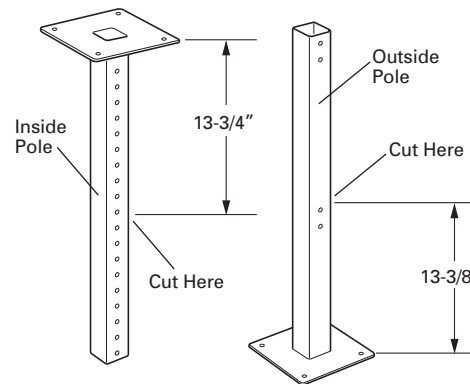

Figure 5
2. Cut the Outside Pole to 13-3/8 inches from the end the mounting plate will be attached. Cut the Inside Pole to 13-3/4 inches from the end the mounting plate will be attached. Refer to Figure 5.